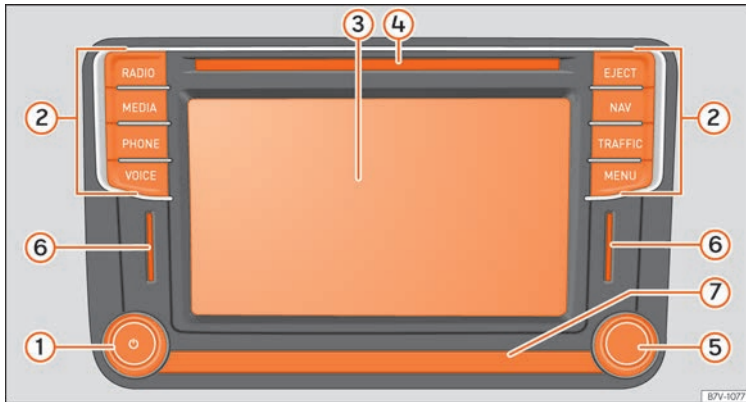

Fig. 203 Overview of the controls The infotainment system is available in different versions that may have different titles and functions of some buttons
»» **Fig. 203** ③ can be used to select the different main menus.
The left-hand rotary knob  »» Fig. 203 ① is the volume control or the on/off button.
The right-hand rotary knob »» Fig. 203 ⑤ is the setup button.
The infotainment buttons are shown in this instruction manual with the title "Infotainment button" and a symbol with a blue title, for instance, infotainment button  »» Fig. 203 ②.
To manually switch the Infotainment system on and off, briefly press the rotary knob  »» Fig. 203 ①.
The Infotainment system comes equipped with a touchscreen \ggg Fig. 203 $\textcircled{3}$.